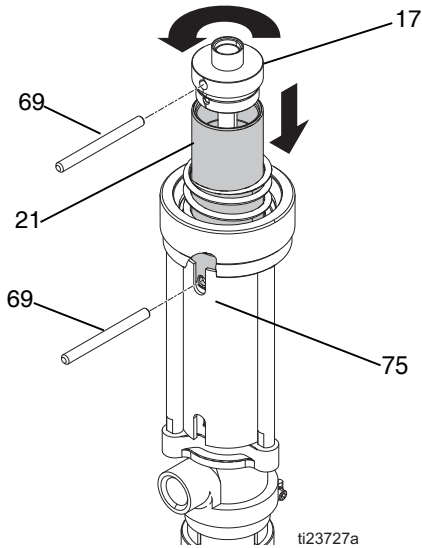

FIG. 13
- Align slot of shield (75) with piston hole and place pin tool (69) in piston hole to prevent piston from turning. Use second pin tool (69) to unscrew piston cap (17) and separate from piston (21) to expose dowel pin (19). See FIG. 13.